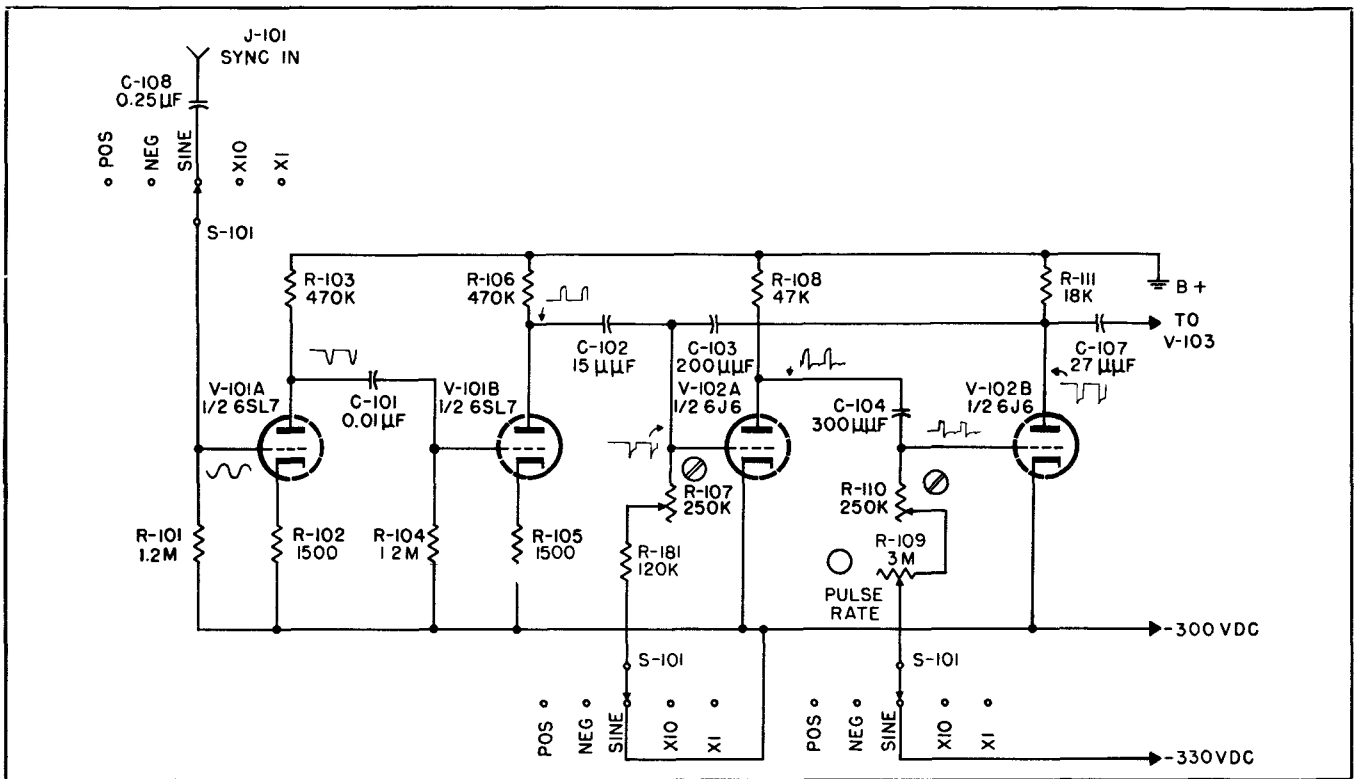

Figure 3-9. External Sine Wave Sync. Circuit
(2) EXTERNAL SINE WAVE.—When the Pulse Rate Multivibrator is synchronized with an external sinusoidal voltage (figure 3-9), the grid of V-102A is returned to the cathode through S-101 while the grid of V-102B is returned to a point about 30 volts negative with respect to the cathode. Thus, V-102A is drawing heavy plate current and V-102B is cut off. This is a stable condition and the circuit thus does not act as a multivibrator on external sinusoidal voltages but more as a pulse repeater.